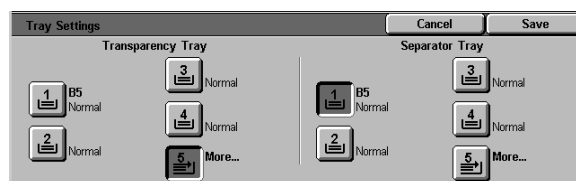

Figure 18: Tray Settings screen
- If you need to make changes to the separator paper tray, touch the Paper Trays button to display the Tray Settings screen (Figure 18). Notice that only Paper Tray 5 is selectable as the transparency tray.